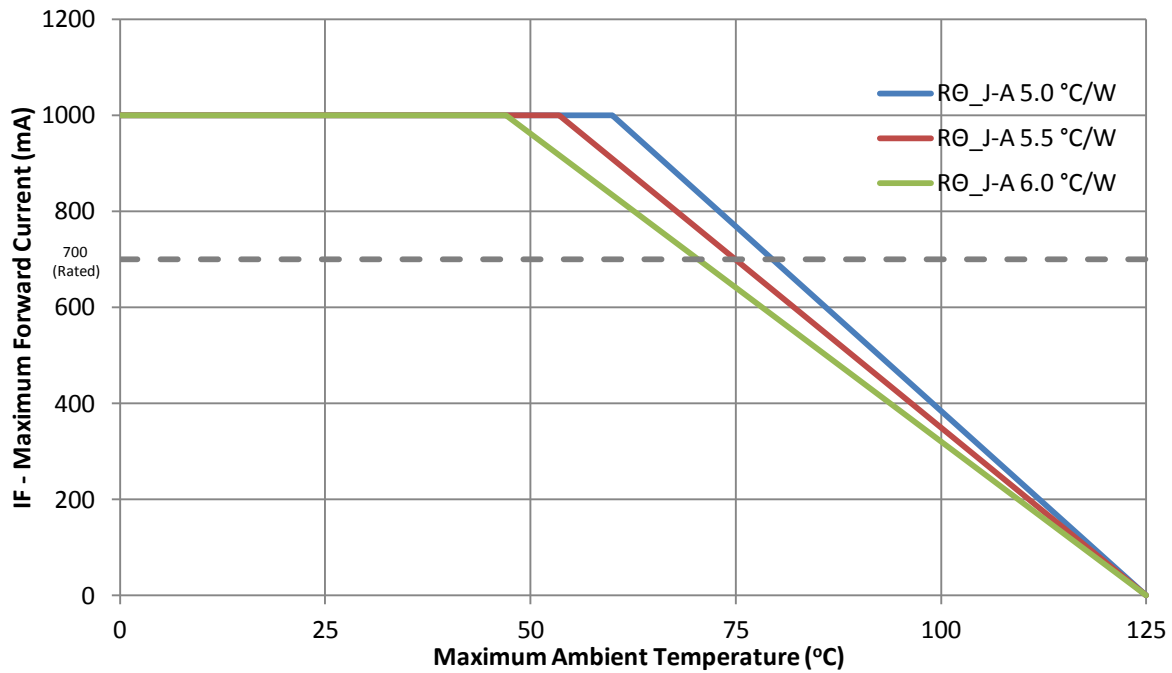

Figure 10: Maximum forward current vs. ambient temperature based on  $T_{J(MAX)} = 150^{\circ}C$ .
- Maximum DC forward current (per die) is determined by the overall thermal resistance and ambient temperature. Follow the curves in Figure 10 for current derating.
Notes for Figure 10: